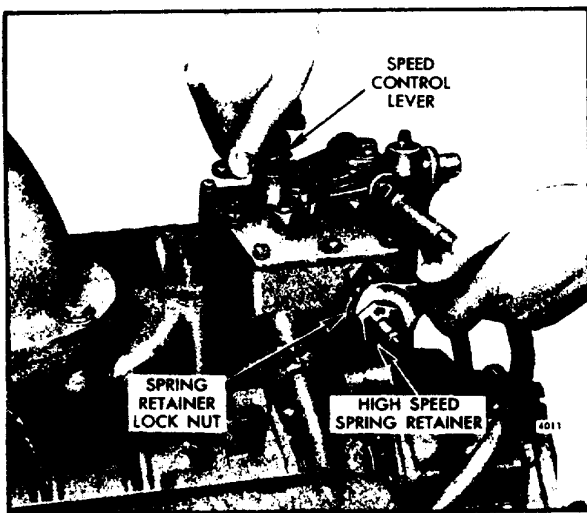

Fig. 6 - Adjusting Maximum No-Load Engine Speed
2. With the engine at operating temperature and no- load on the engine, place the speed control lever in the maximum speed position. Turn the high-speed spring retainer in (Fig. 6) until the engine is operating at the recommended no-load speed. Use an accurate hand tachometer to determine the engine speed. The maximum no-load speed varies with the full-load operating speed.